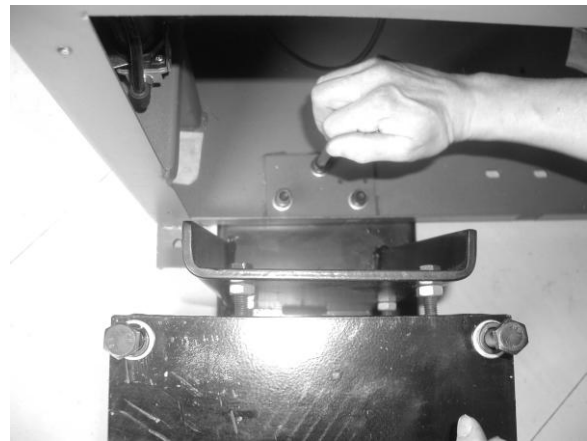

FIG 30
6.1.3 Push the platform of the base plate of the base assembly into the body through base plate on the left-back side of the body. Align the thread hole to the reinforce hole and use the bolt and washer to fix. (FIG 30) .